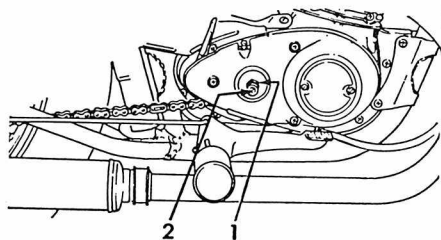

Fig. HD2-7—Clutch adjustment is accomplished by turning screw (2) after first loosening lock nut (1).
just the free travel, loosen lock nut (1—Fig. HD2-7) and turn adjusting screw (2) either way as required until the correct free travel is obtained.